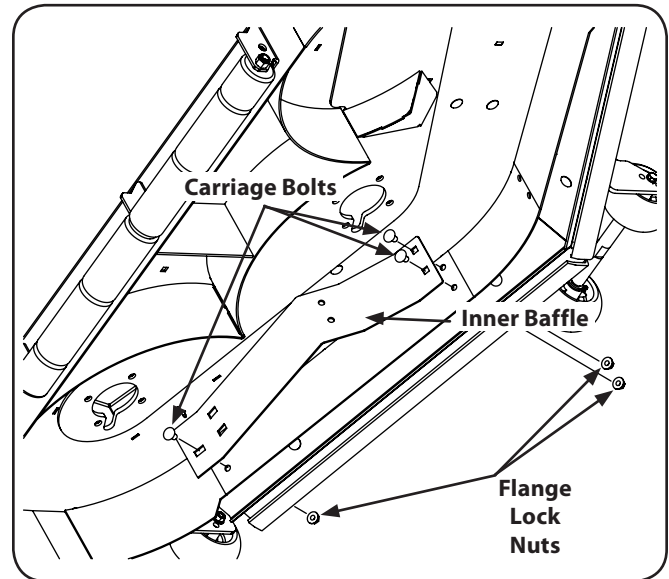

Figure 6-9
1. Remove the carriage bolts and flange lock nuts that secure the baffle to the deck to mow high-volume grasses. See Fig. 6-9.